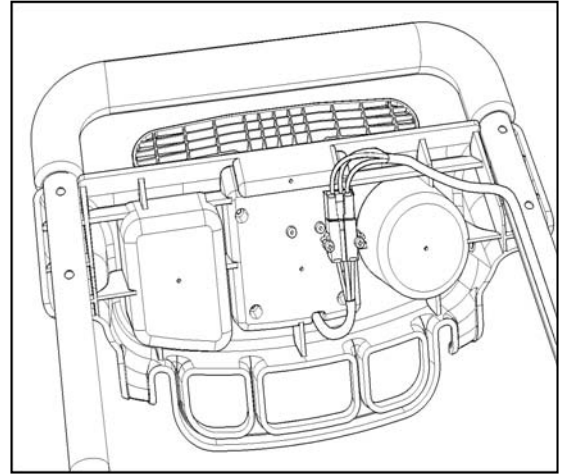

Figure 7. Connect the wire Harness to the switch connector underneath the controls caddy.
- Plug the connector end of the wire harness into the switch connector underneath the controls caddy (**Figure 7**). It will only install one way. The wire colors will be aligned such as red to red on one end.